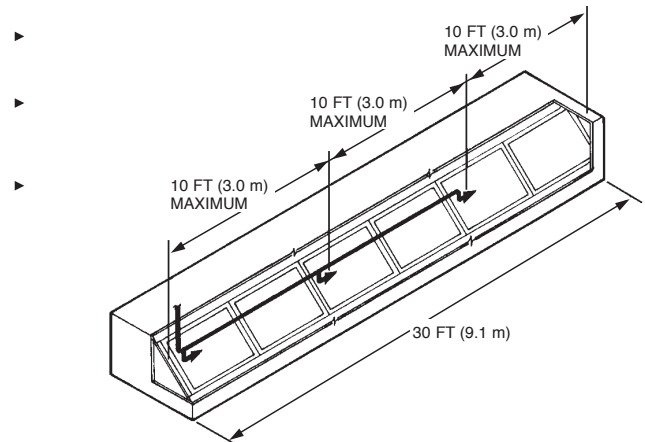

FIGURE 4-12
- 1N nozzle every 10 ft (3.0 m) or less depending on the overall length of the plenum. See Figure 4-12. The nozzles may point in the opposite directions as long as the entire plenum area is